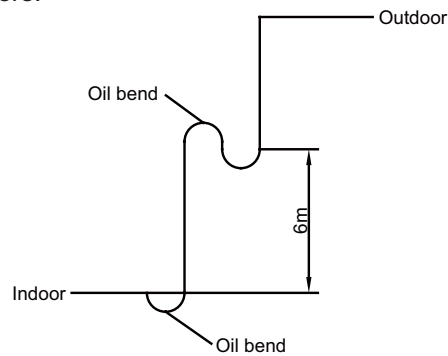

Figure 3-2-5
- (2). Do not bend the pipes in an angle more than 90°.
(4). When bending the pipe, do not bend it as is. The pipe will be collapsed. In this case, cut the heat insulating pipe with a sharp cutter as shown in Figure 3-2-5, and bend it after exposing the pipe. After bending the pipe as you want, be sure to put the heat insulating pipe back on the pipe, and secure it with tape.